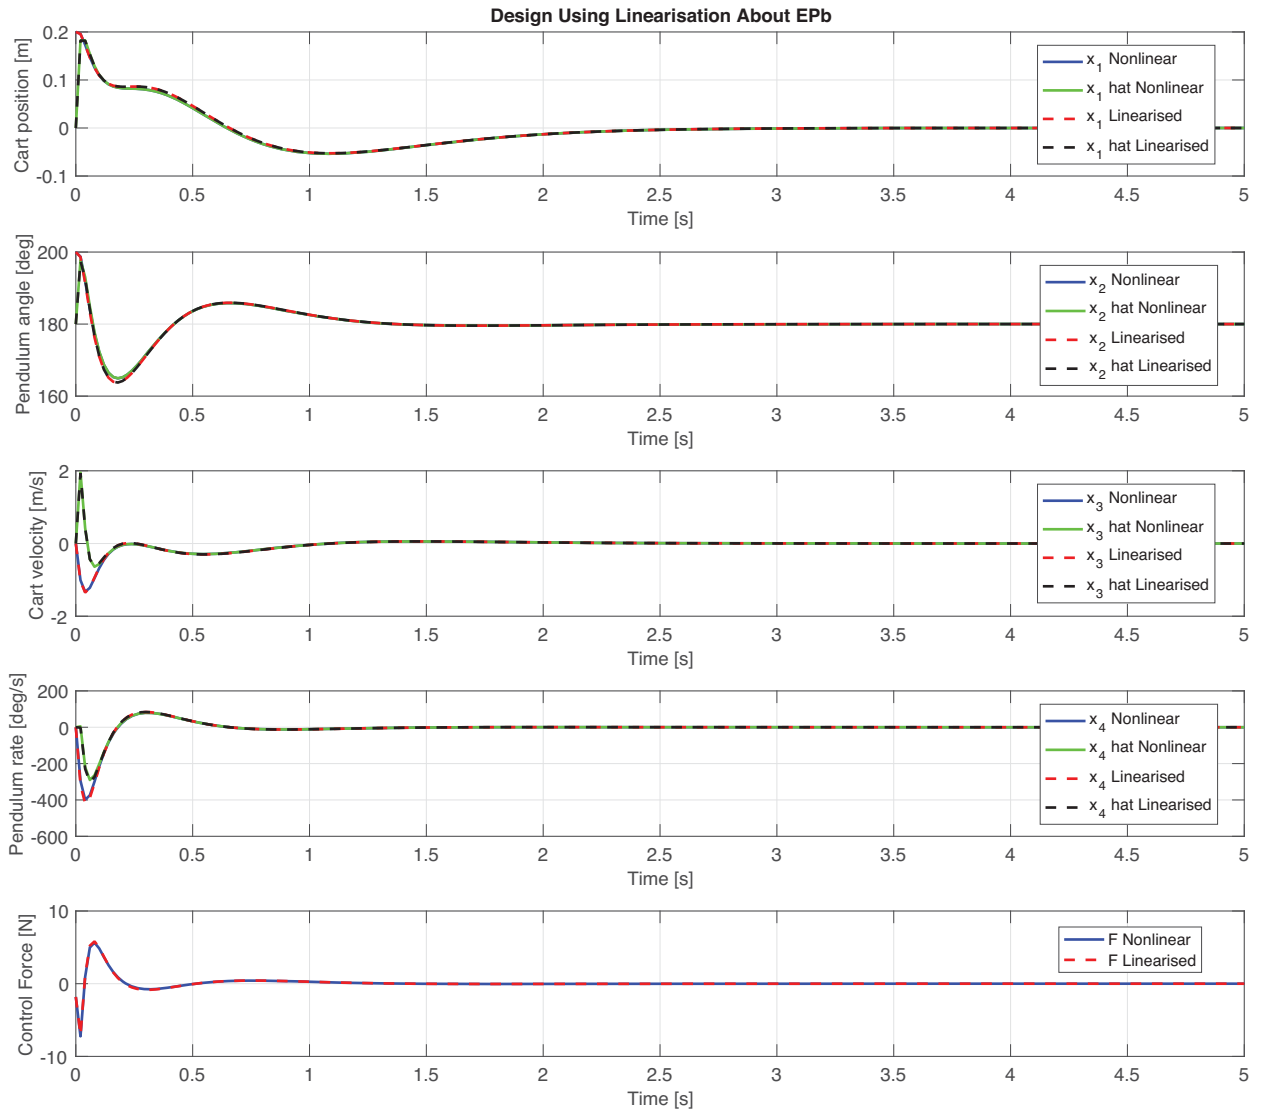

Figure 5: Time histories of the system states, the state estimations and control force.
- g) Plot the results of the simulations in a figure that shows the time histories of the position of the cart, the angle of the pendulum, the velocity of the cart, the angular velocity of the pendulum, the estimation of the states and the control force for both the linearised and nonlinear control systems. An example of the simulation results is shown in Figure 5.